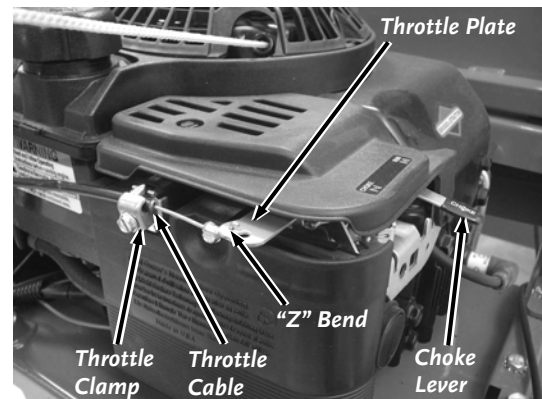

Figure 24
1. Loosen the Screw on the Throttle Cable Clamp (Bowden clamp) with the Wrench or Socket so the Throttle Cable can slide below it. It is not necessary to remove the Clamp (**Figure 24**).
7. Place the Z-Bend end of the Throttle Cable into the small hole on the Throttle Plate on the Engine. The Throttle Plate is a metal Tab that protrudes from the Engine below the plastic Air Filter Cover. It has two (2) holes, and the Cable goes into the smaller hole from the bottom side. Place the Throttle Cable Sheath under the Cable Clamp (**Figure 24** on page 27).